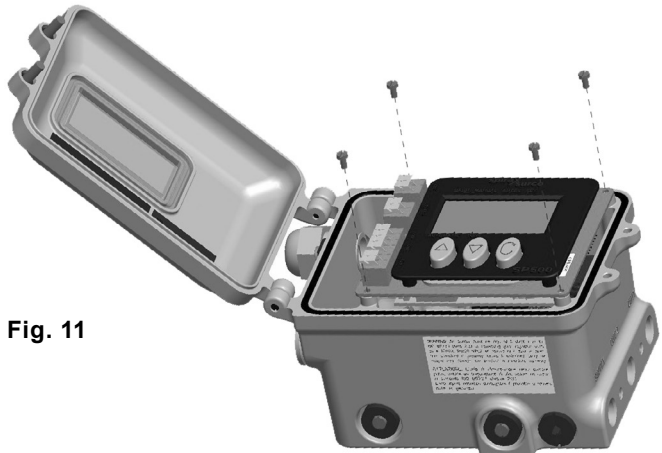

Fig. 11
- Unscrew the board as shown in Figure 11.